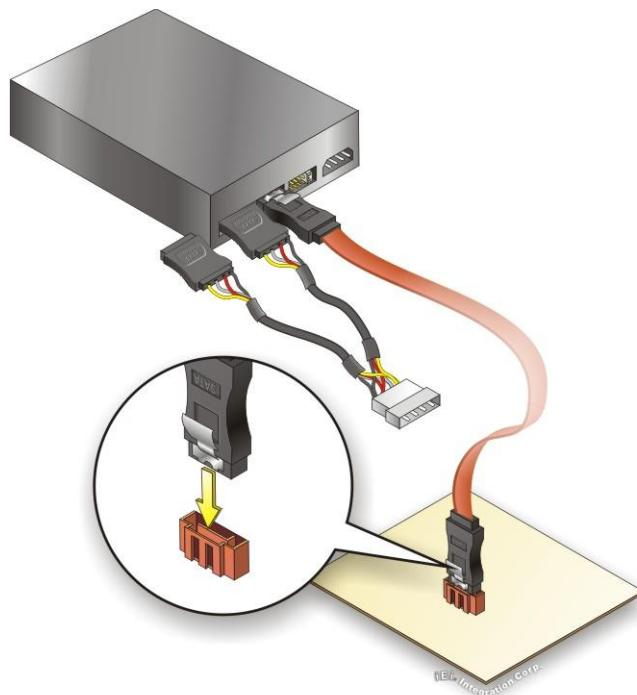

Figure 4-22: SATA Power Drive Connection
- Step 3: Connect the cable to the SATA disk.** Connect the connector on the other end of the cable to the connector at the back of the SATA drive. See **Figure 4-22**.
- Step 4: Connect the SATA power cable.** Connect the SATA power connector to the back of the SATA drive. See **Figure 4-22**.